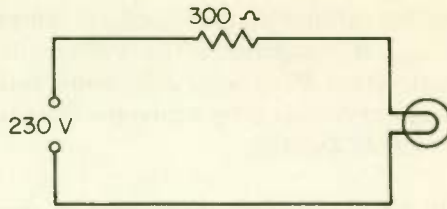

Fig. 49
2. (a) See Fig. 49. (b) 138 V; (c) 92 V; (d) Burn dimly... The bulb will burn dimly because the voltage across it is less than 115 V.